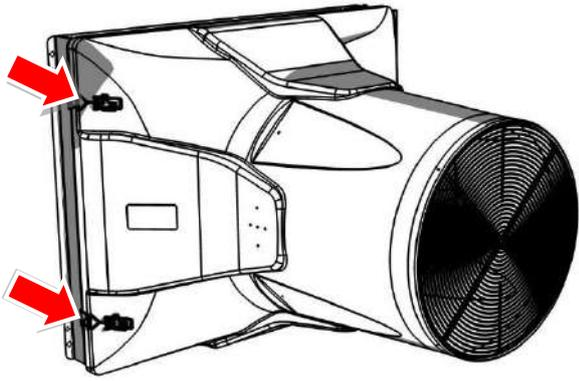

Fig. 4.4.1
- Release the 2 quick-release fasteners (Fig. 4.4.1).